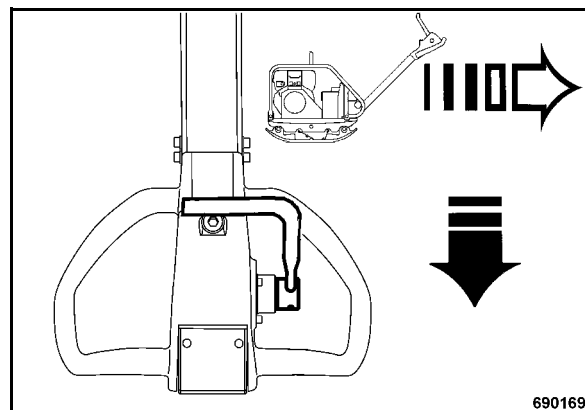

Fig. 26
- Pull the travel lever (Fig. 26) back, until the vibratory plate has reached the desired speed in reverse.